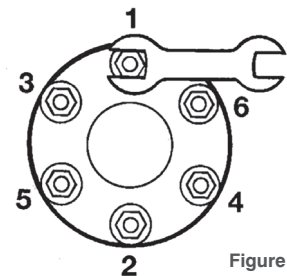

Figure 2
2.2.4 In both cases the nuts are then further tightened a minimum of 2 full turns in increments of a 1/2 turn only, on each position in the sequence shown in Figure 2. To avoid over tightening the maximum number of turns is 2 1/2.